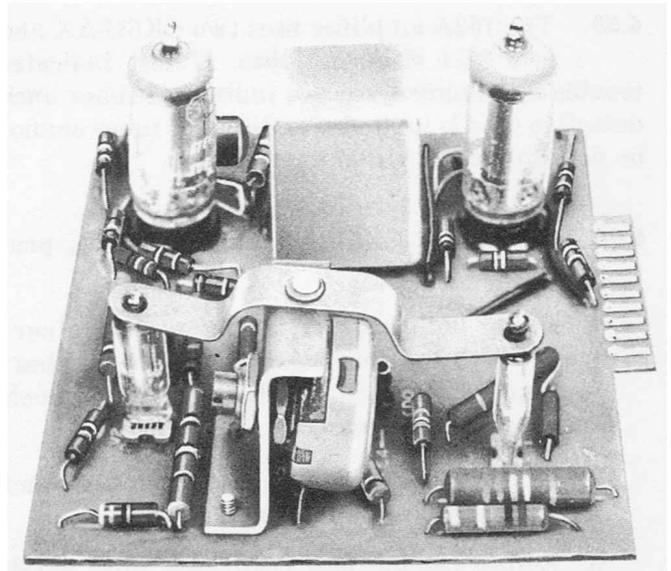

Fig. 4 — 152A Amplifier
6.03 The 2AB telephone answering set is equipped with a 152A amplifier. This is a plug-in printed circuit-type amplifier (see Fig. 4).